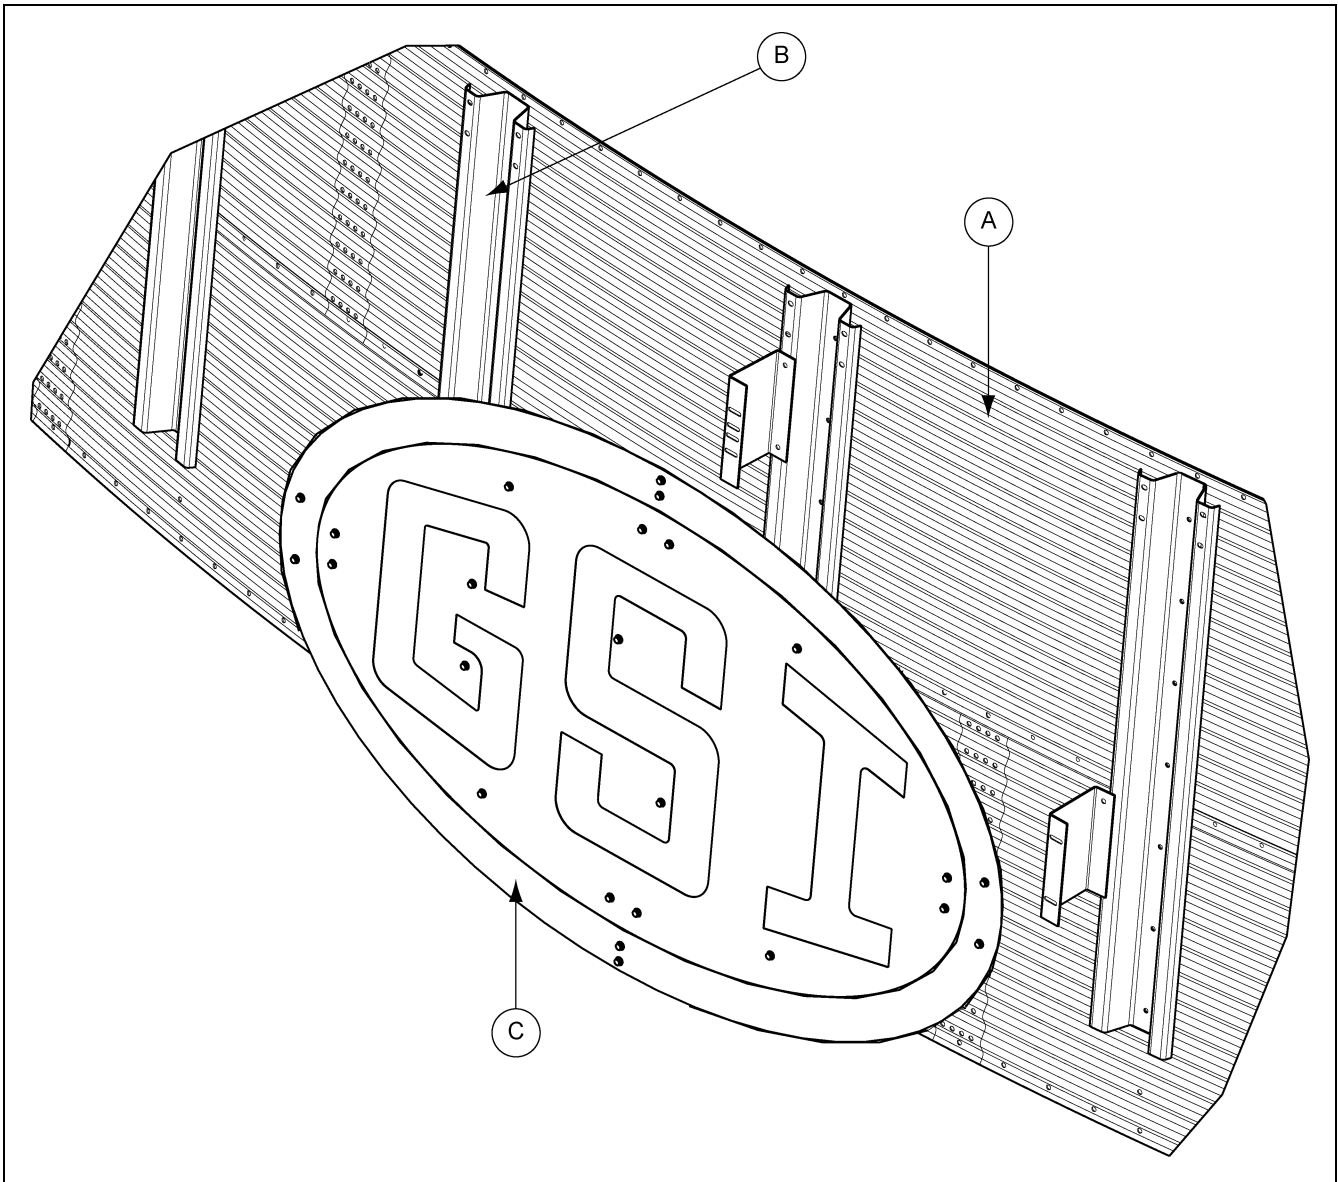

Figure 3 3 Post Sign Stiffener
2. Place additional brackets on the adjacent stiffeners. *(See Figure 3.)*